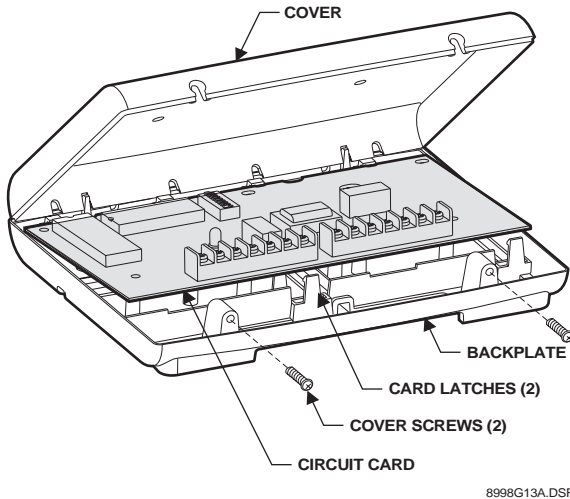

Figure 4. Removing the Cover Screws and Cover
- Loosen the two cover screws and lift the cover up and off. Set the cover aside (Figure 4).
- Install the circuit board onto the housing back-plate (top first), then gently press on the bottom until the board snaps under the card latches (Figure 4).